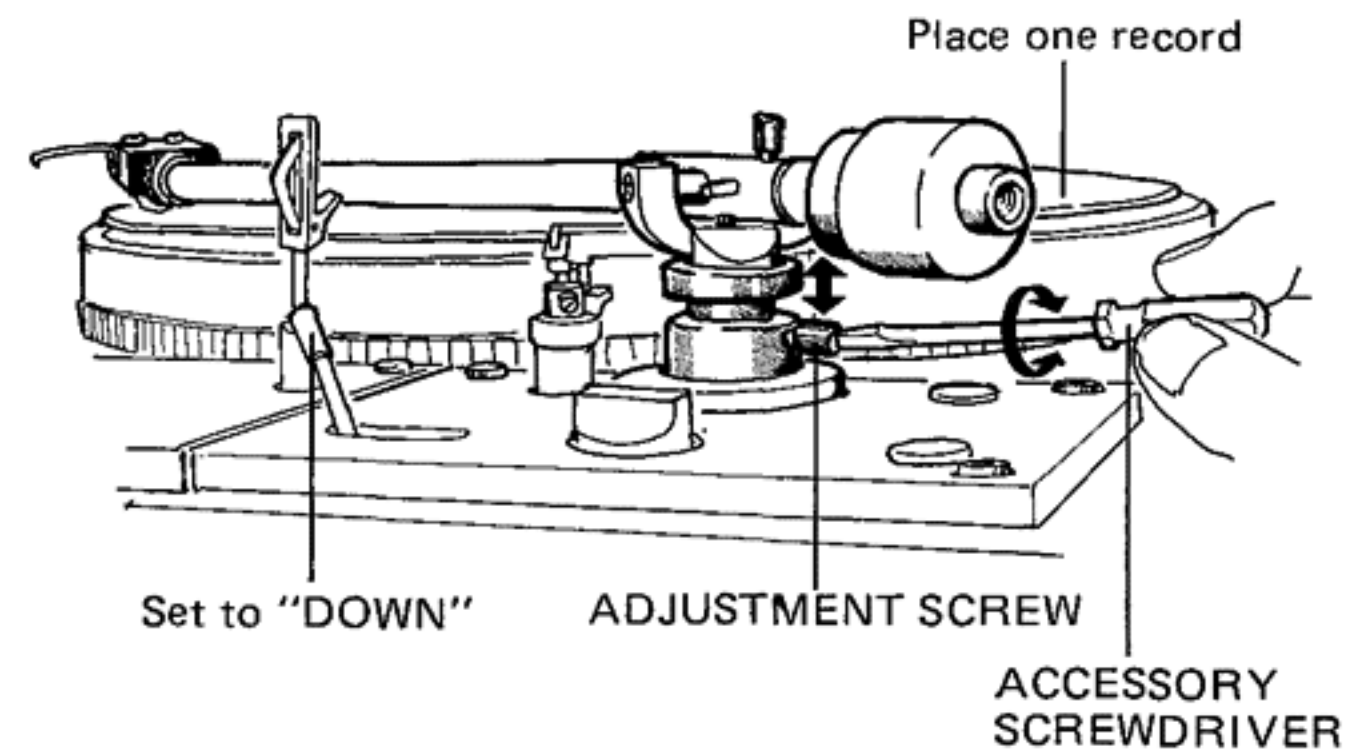

Fig. 15
3. Loosen the adjustment screw at the tonearm support shaft (Fig. 15), and move the tonearm up or down until the tubular portion of the tonearm is parallel with the record surface (Refer to Fig. 11 on page 7.). There is a danger of the tonearm suddenly dropping when the adjustment screw is loosened, causing the stylus tip to strike and perhaps damage the record. For this reason, be sure to support the tonearm with one hand while loosening the screw.